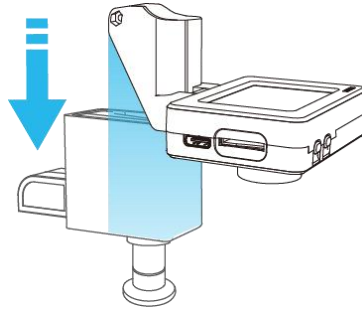

Figure 3.7 Place AI camera
**Step 2** Mount the AI camera on the servo, as shown in Figure 3.7.